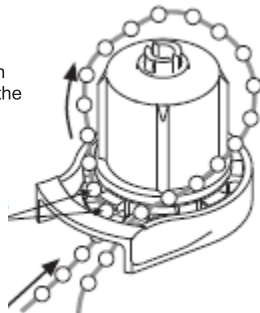

Figure 6. Insert Bead Chain
Step 4. Insert bead chain into the clutch as shown in **Figure 6.**